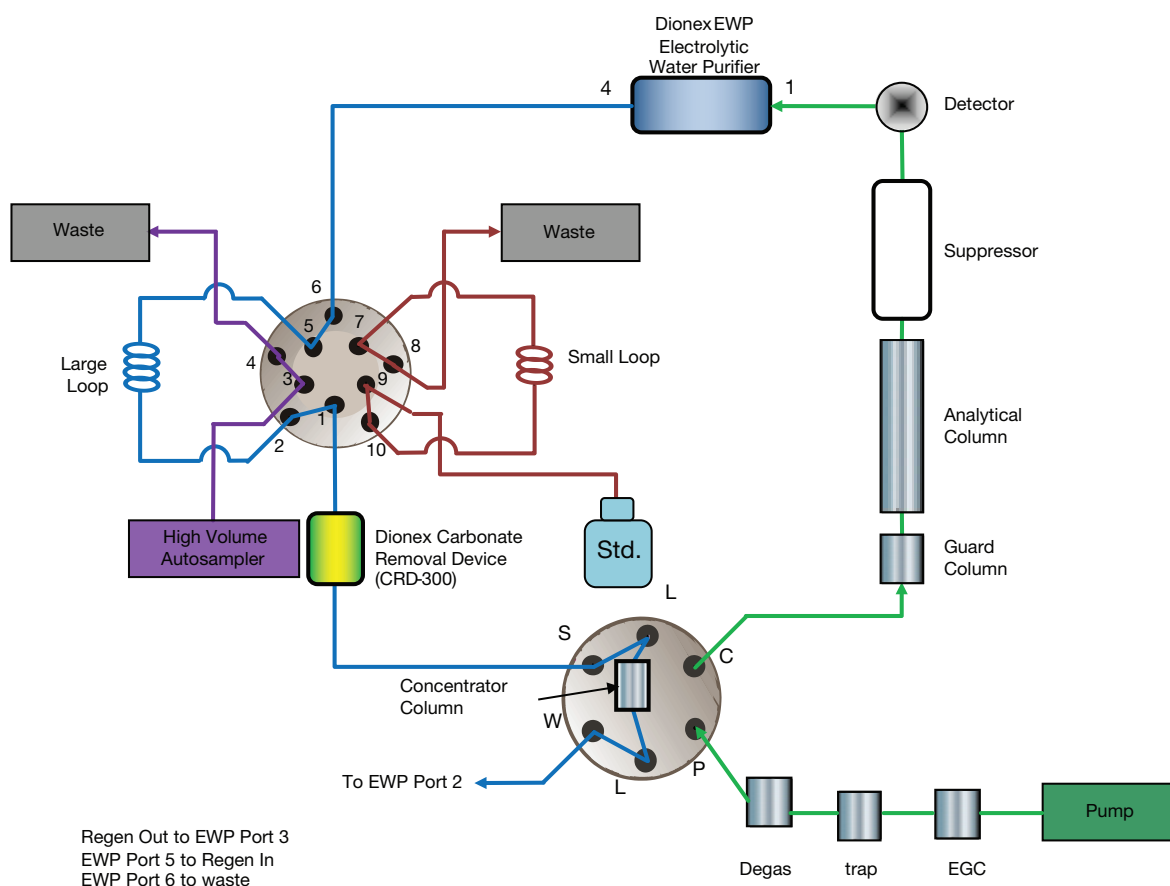

Figure 1. Flow diagram.
The Dionex ICS-5000+ HPIC system is a high-pressure, modular dual IC system. This system, the Dionex EGC 500 KOH cartridge, and Dionex CR-TC 500 Continuously Regenerated Trap Column consumable products are designed for high pressure conditions up to 5000 psi. To set up this application, connect the Dionex ICS-5000+ HPIC system, Dionex AS-HV Autosampler, Dionex EWP Electrolytic Water Purifier, and Dionex AutoPrep system as shown in Figure 1. Notice that the flow path from the pump to the CD Conductivity Detector is similar to that of most IC systems.
- Complete the IC system plumbing according to Figure 1
The Dionex AS-HV Autosampler is a high-volume autosampler designed for trace ion applications. This autosampler is a low-pressure autosampler, therefore samples are loaded into a sample loop and then the sample is transferred to a concentrator column. Plumb the Dionex AS-HV Autosampler in Pull mode through the waste and sampler ports in the Dionex AutoPrep valve (Dionex Automation Manager AM-HP1 10-port valve) according to Figure 1, Table 6, and the autosampler Operator’s Manual.⁹